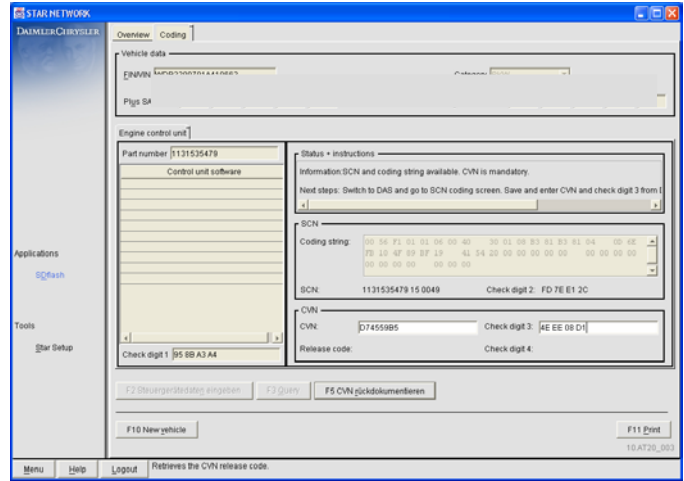

Figure 15
- Using the CVN and Check Digit [3] from the sheet printed in Section E, Step 3, input the CVN and Check Digit [3] into the respective fields in the SCN Coding On-line Application. (Figure 15)